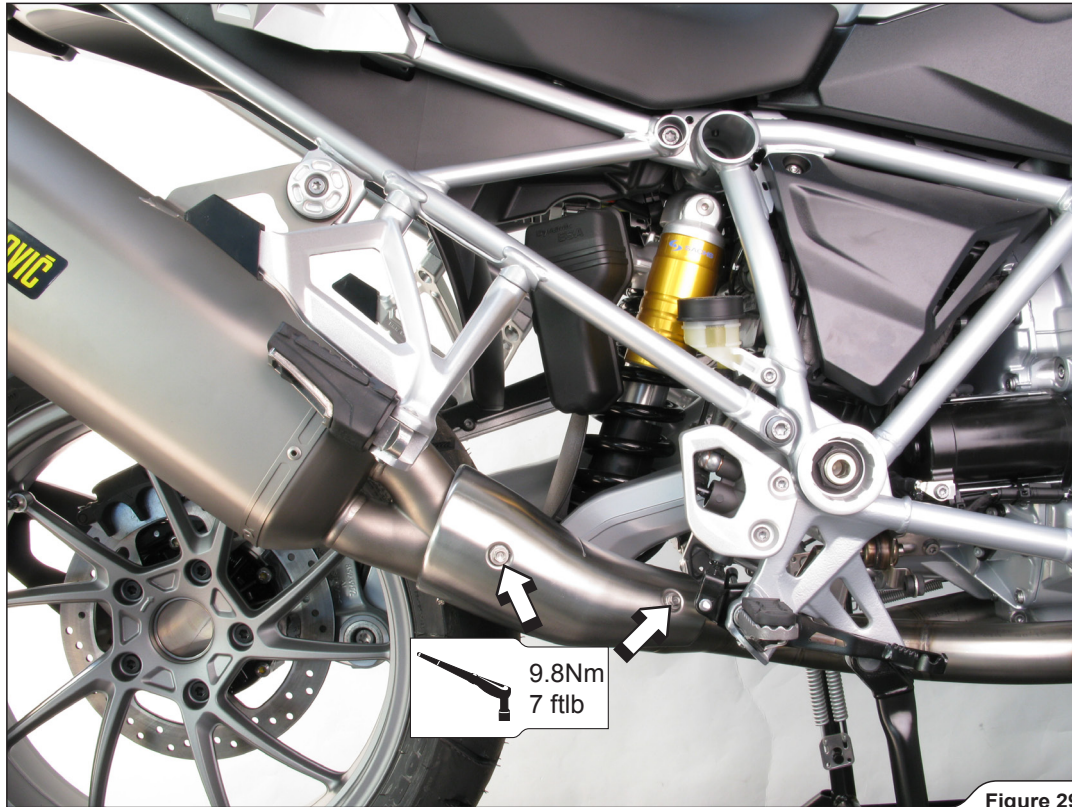

Figure 29
21. Align the heat shield in respect to the muffler's inlet pipe and collector. Tighten the heat shield's bolt and clamp to the specified torques (Figure 29, 30).